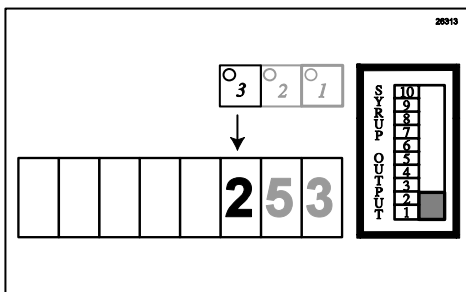

Figure 170
- Touch the #3 key and record as your third number from the right. (See Figure 170.)